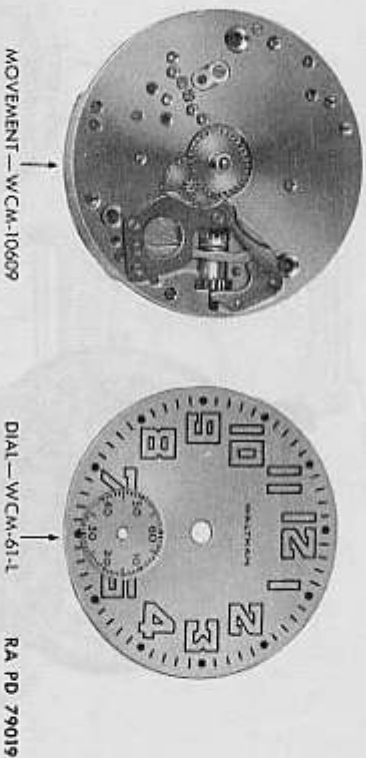

Figure 155 — Waltham Wrist Watch — Dial Removed
- f. Remove Dial (fig. 155). Back out dial foot screws two turns from contour of pillar plate and remove dial. Screw dial foot screws back into place to avoid losing them.
**k. Replace Dial (fig. 155).** Back dial foot screws out two turns and replace dial. Secure by tightening dial foot screws.